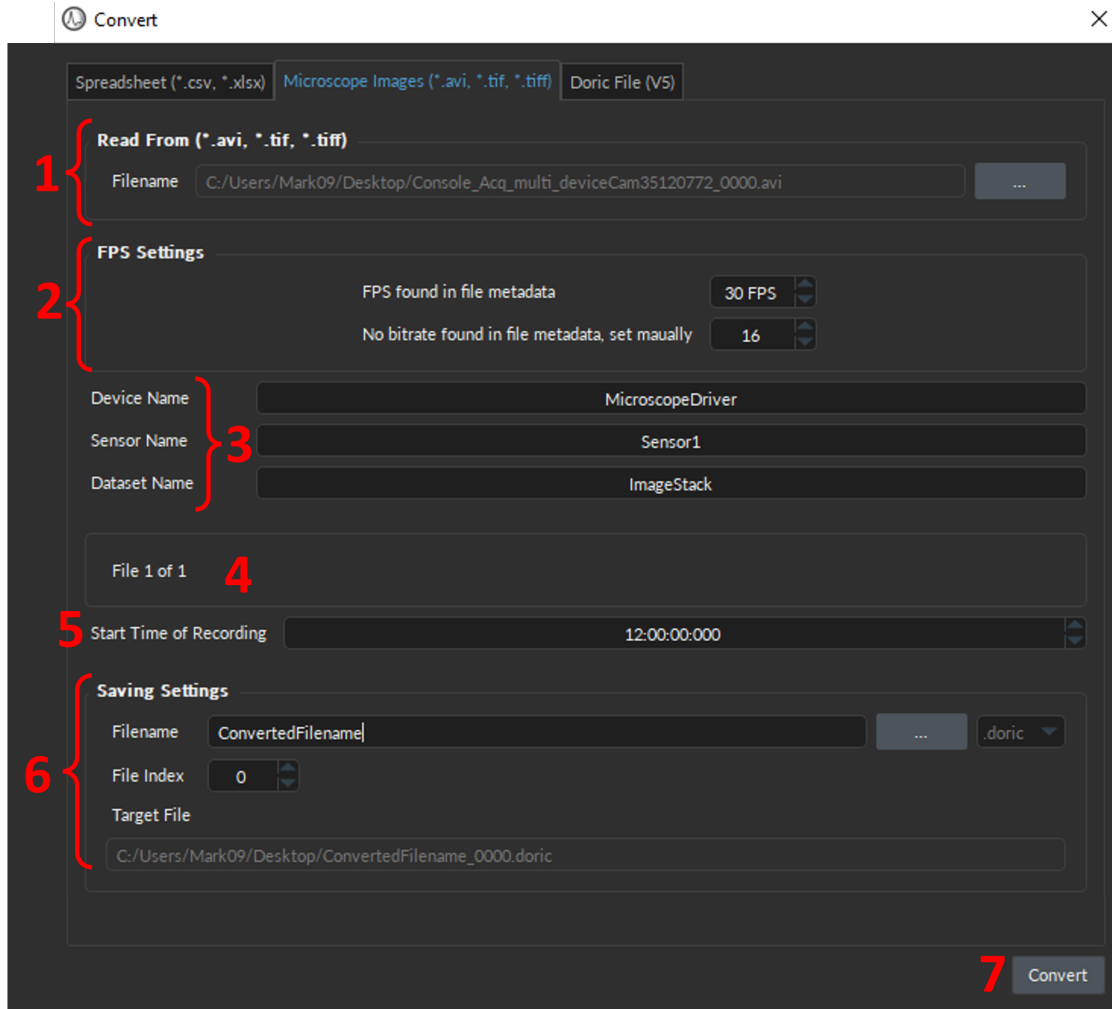
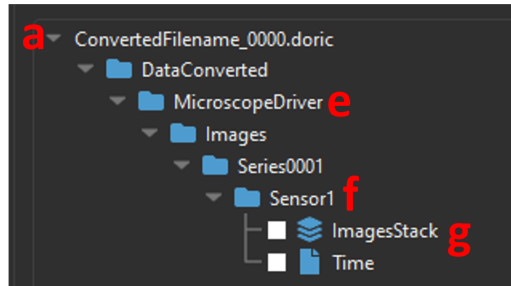
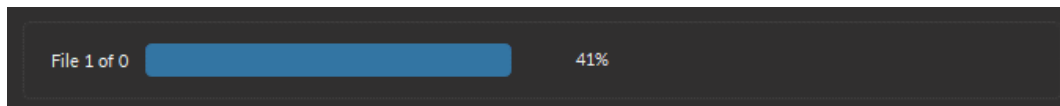

Figure 12.11: Convert Window, Microscope Images Tab
Figure 12.12: *Converted Microscope File Structure*
Figure 12.13: *Loading Bar*
1. The **Read From** section (Fig. 12.11, 1) specifies the Microscope Image file that will be converted.
- a) The **Filename** displays the computer path and filename of the data file that will be converted. The **Filename** is automatically generated once the file is selected (Fig. 12.12, a).
2. The **FPS Settings** (Fig. 12.11, 2) contains the following parameters:
3. The **Structure Settings** (Fig. 12.11, 3) sets the name of the nested folders containing the converted data, recapitulating the file structure of v6 .doric files. The names of the following three layers (Fig. 12.12) must be specified:
- e) The **Device Name** specifies the device type used to collect the data, as in Fig. 12.12, e.
- f) The **Sensor Name** specifies the type of sensor that was used to collect the data, such as red or green CMSO sensor, as in Fig. 12.12, f.
- g) The **Dataset Name** specifies the type of data that was collected, as in Fig. 12.12, g.
- 4. The **Loading bar** (Fig. 12.11, 4) appears when users selected the **Convert** button at the bottom of the window and indicates the progress of the file conversion (Fig. 12.13).
- 5. The **Start Time of Recording** (Fig. 12.11, 5) specifies the absolute time of the day as hh:mm:ss:zzz when the recording was initiated and can be used to align the data properly.
- 6. The **Saving Settings** (Fig. 12.11, 6) specifies: